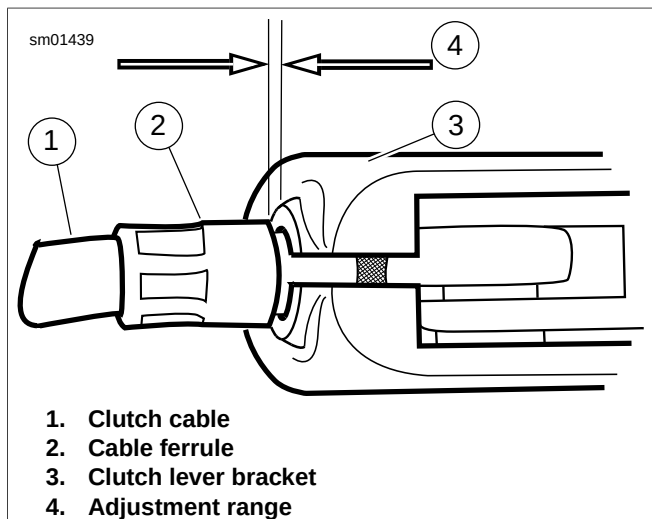

Figure 5-7. Clutch Freeplay: Adjust for 1/16-1/8 in. (1.6-3.2 mm) Gap Between Ferrule and Bracket
13. See Figure 5-7. Pull clutch cable ferrule away from clutch lever bracket to check free play. Turn cable adjuster as necessary to obtain 1/16-1/8 in. (1.6-3.2 mm) free play between end of cable ferrule and clutch lever bracket.